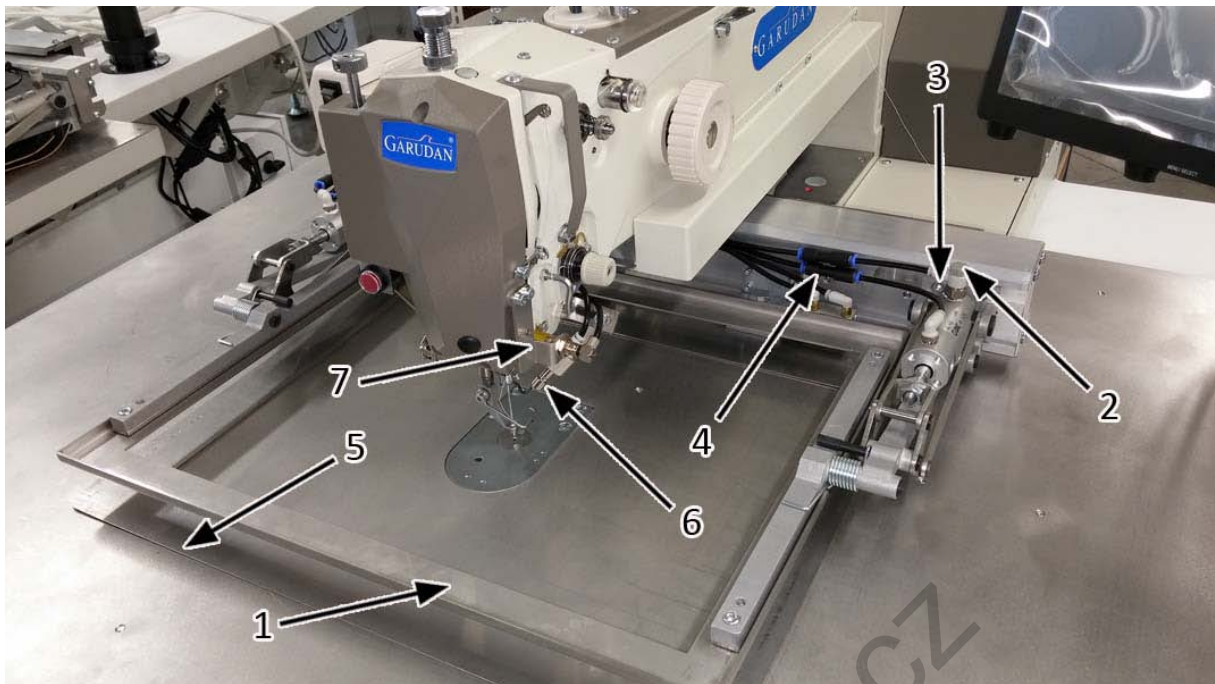

Fig. 45
Fig. 45 shows position of the thread holder (7). This device is activated by *parameter 32*. Default value is 100 for oscillating shuttle hook and 700 for rotary hook.
Fig. 45 shows position of of nozzle (6) used for needle cooling. This function is activated by *parameter 31*.